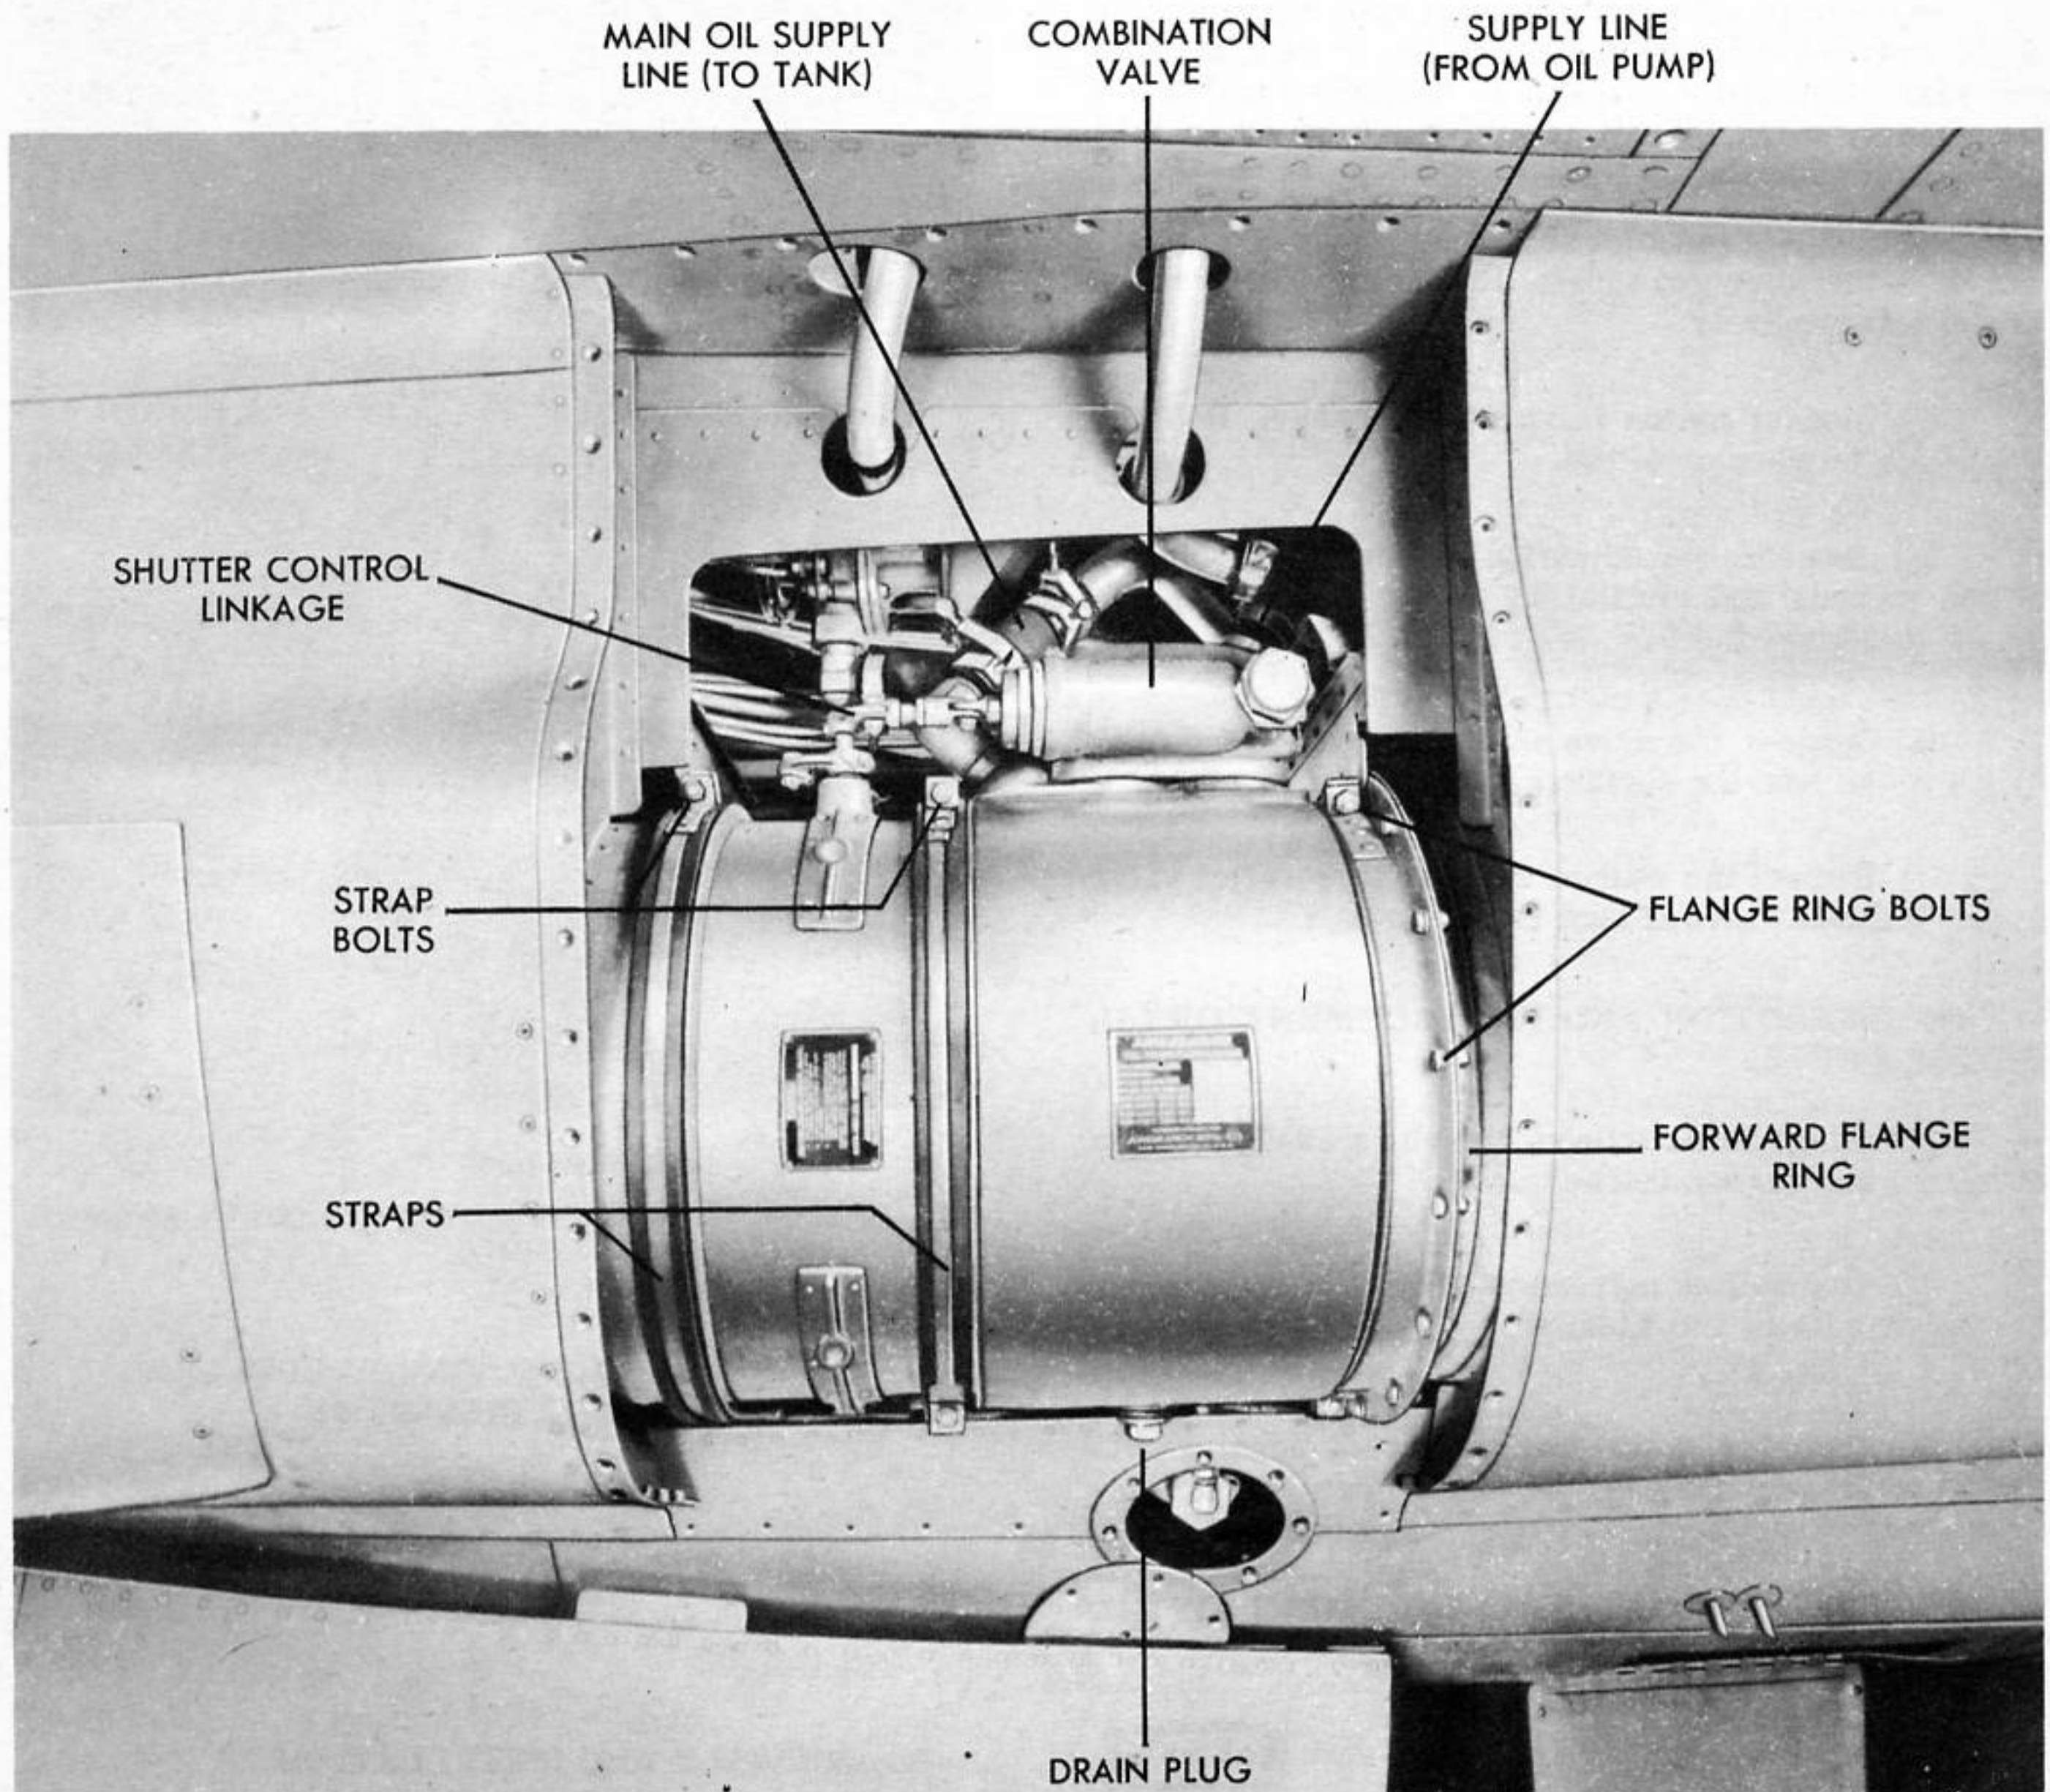

Figure 134 - INSTALLED OIL COOLER
(7) REMOVAL OF OIL COOLER. (See figure 134.)
(3) INSTALLATION OF OIL COOLER. (See figure 134.)